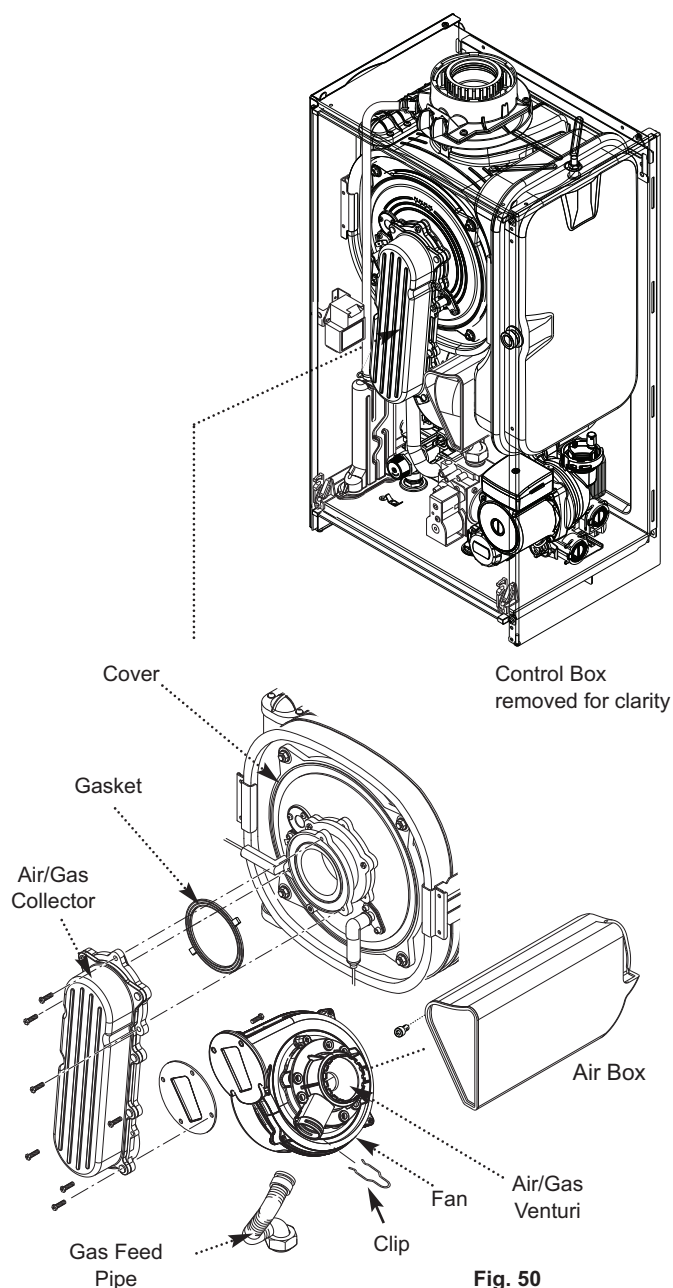

Fig. 50
### 10.3.2 Fan (Figs. 50 & 51)
2. Undo the screws securing the air/gas collector to the extension piece and disconnect the fan electrical plugs (Fig. 50).
### 10.3.3 Air/Gas Venturi (Figs. 50 & 51)